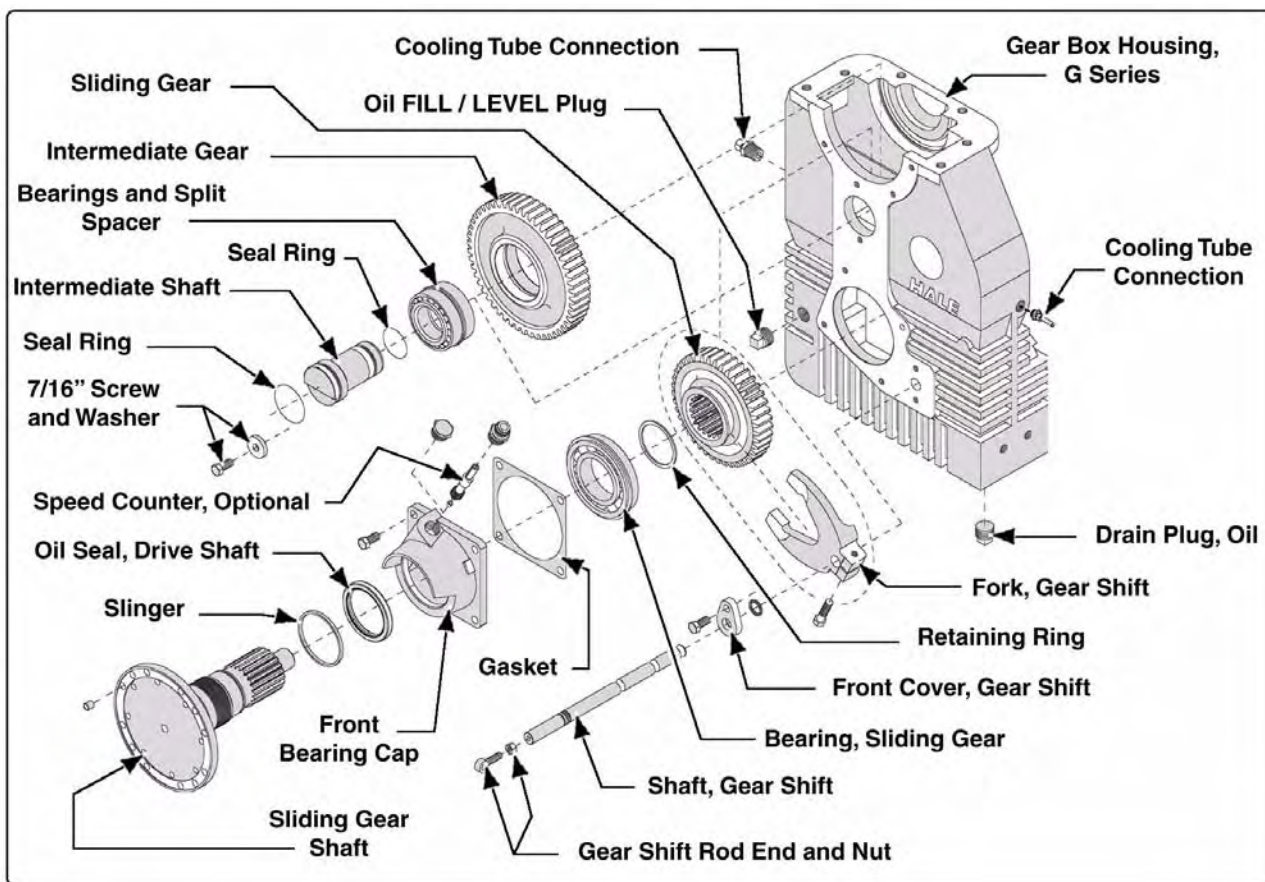

Figure 6b-1: Intermediate Shaft and Sliding Gear, Typical G Series Gearbox
With the gearbox secured in a holding fixture, remove and disassemble the intermediate shaft assembly. (See Figure 6b-1: "Intermediate Shaft and Sliding Gear, Typical G Series Gearbox.")
2. Remove the 7/16”-14 UNC x 1” screw and washer holding the intermediate shaft in place. (See Figure 6b-1: “Intermediate Shaft and Sliding Gear, Typical G Series Gearbox” on page 97.)